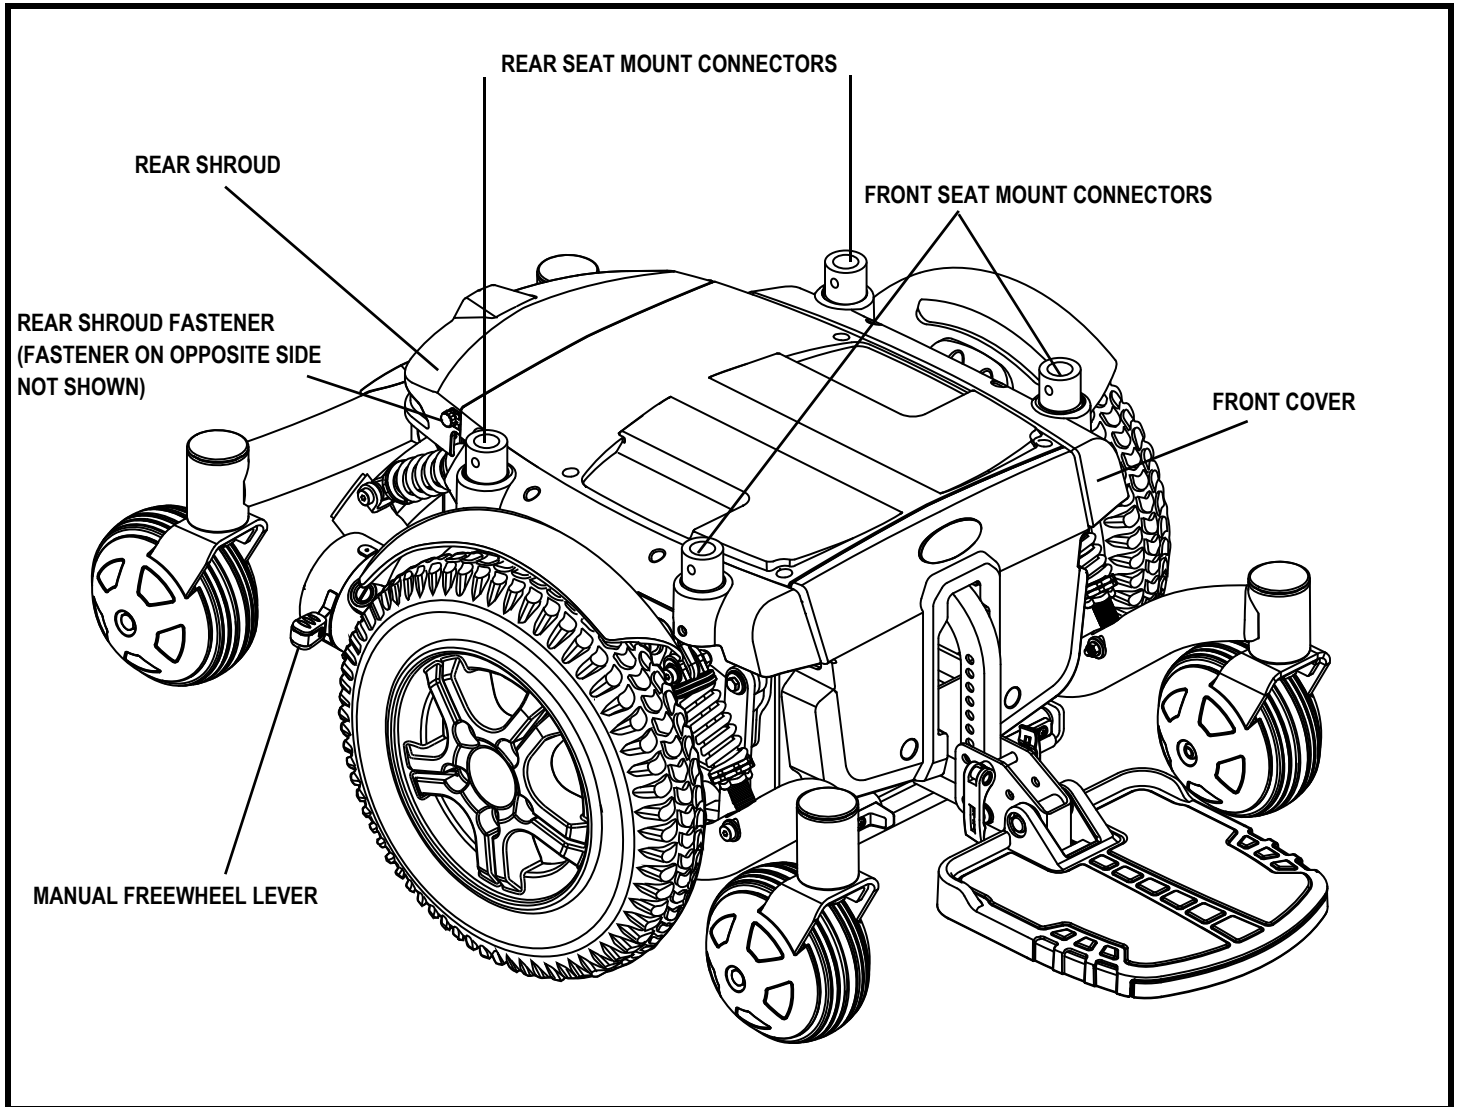

Figure 6. The Quantum 6000Z Series Power Base
5. Loosen the rear shroud fasteners and remove the rear shroud. See figure 6.
7. Replace the rear shroud and tighten the rear shroud fasteners. See figure 6.
3. Loosen the rear shroud fasteners and remove the rear shroud. **See figure 6.**